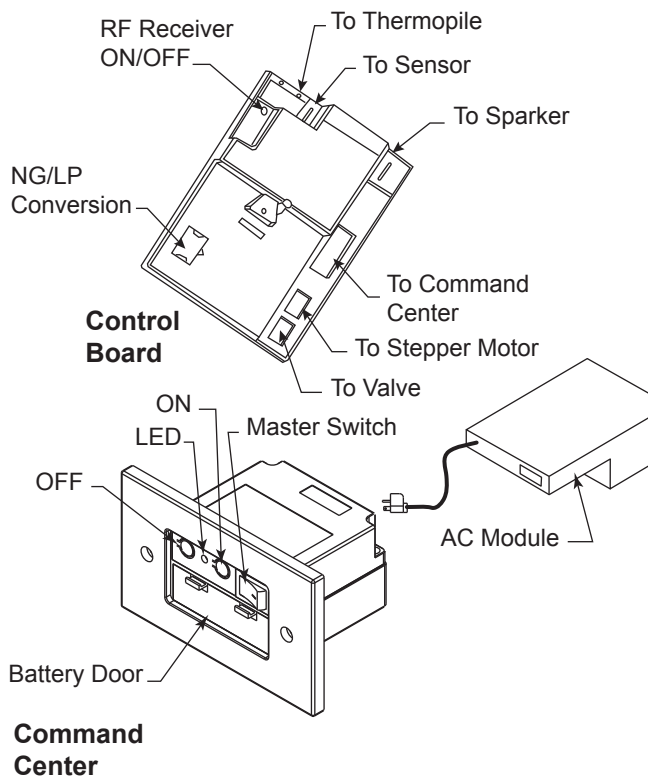

Figure 40 - Signature Command System Components
1. The RF receiver button located on the Control Board must be in the on position before the learn function can begin. Use paper clip to depress button. One beep for RF receiver ON or two beeps for RF receiver OFF will be given as confirmation. Refer to Figure 40 for location.